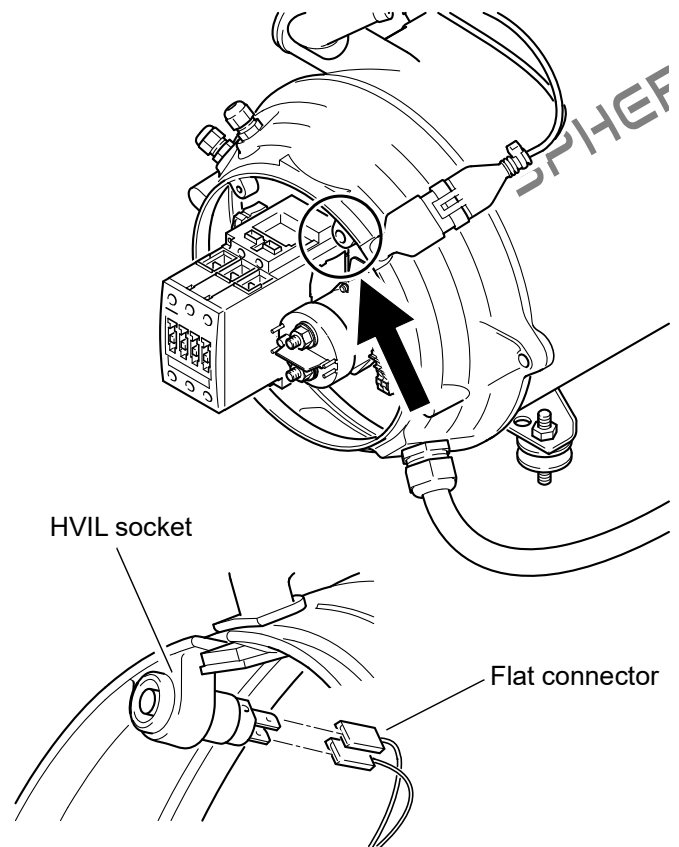

Fig. 808 HVIL Socket
5. If necessary disconnect connectors from the HVIL socket (Fig. 808).
4. If necessary reconnect connectors to the HVIL socket (Fig. 808).